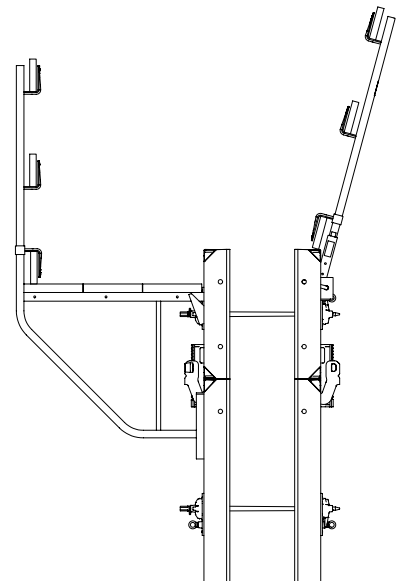

Fig. A7.37
4. Install guardrail boards and secure with nails. (Fig. A7.37 + A7.38)